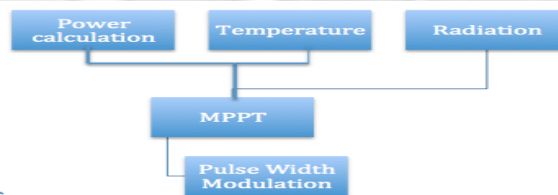
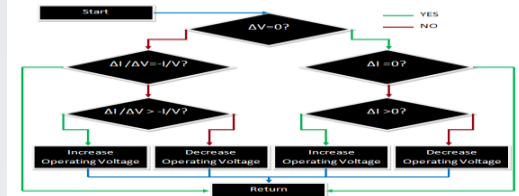

Fig. 2: Microcontroller Code Structure
Fig. 3: Incremental Conductance method
- Using C++ program for microcontroller (PIC16F778A) and Incremental Conductance. Also, Matlab code to MPPT to observe the outputs. The structure of microcontroller is shown in Fig. 2 and Inc Conductance in Fig. 3.